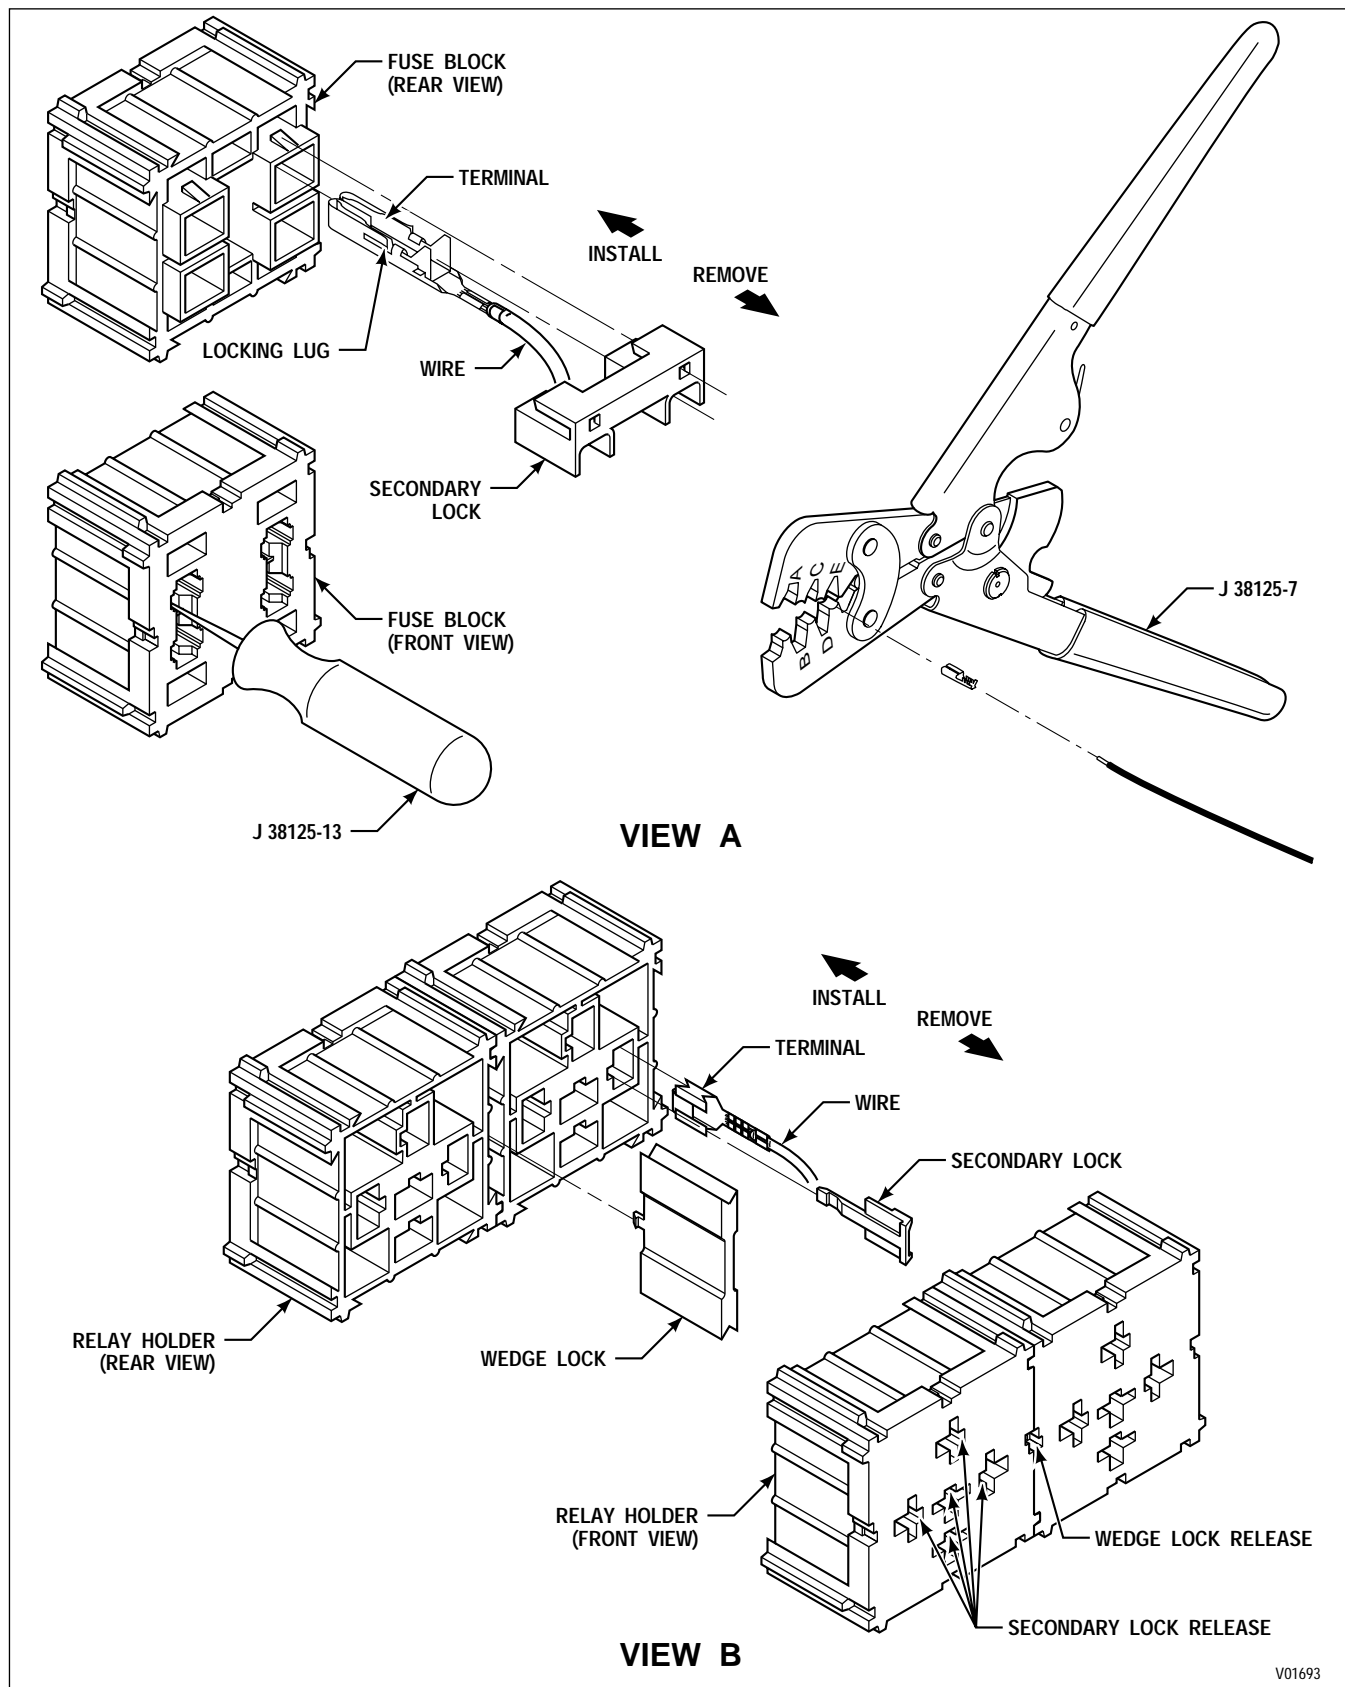

Figure E-13. Dill Connectors (Freightliner 4-Way Fuse and 5-Way Relay VIW)
#### B. Terminal Removal (refer to Figure E-13, Views A and B)
2. Place the core crimp portion of the terminal on the bed of the designated crimping anvil and squeeze crimper enough to hold terminal from dropping (Figure E-13, View C).